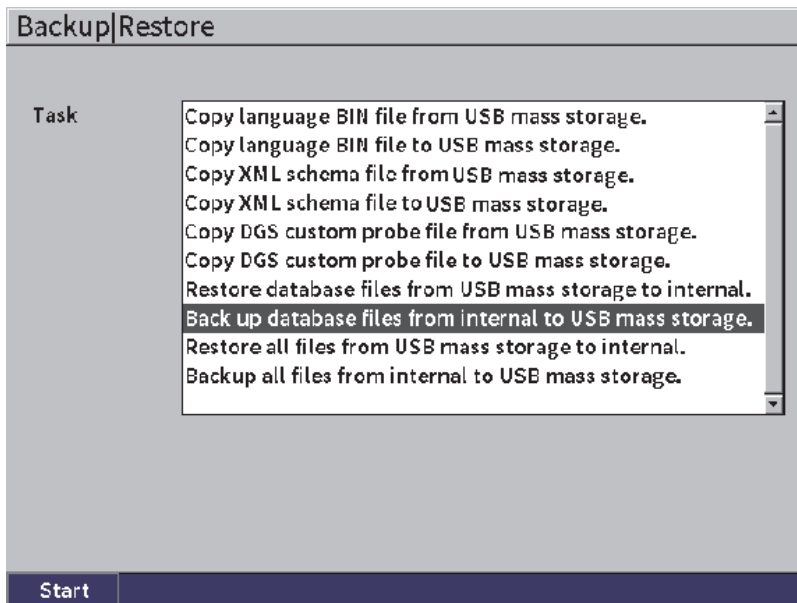

Figure 9-24 Backup | Restore setup page
1. Open the **Backup | Restore** setup page (see Figure 9-24 on page 128).